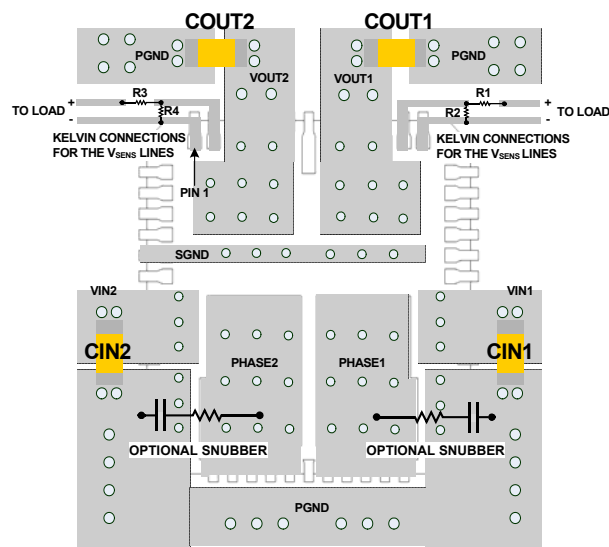

FIGURE 34. RECOMMENDED LAYOUT
To achieve stable operation, low losses, and good thermal performance, some layout considerations are necessary (Figure 34).
- Use a separated SGND ground copper area for components connected to signal ground pins. Connect SGND to PGND with multiple vias underneath the unit in one location to avoid the noise coupling, as shown in Figure 34. Don't ground vias surrounded by the noisy planes of VIN, PHASE and VOUT. For dual output applications, the SGND to PGND vias are preferred to be as close as possible to SGND pin.
- Optional snubbers can be put on the bottom side of the board layout, connecting the PHASE to PGND planes, as shown in Figure 34.